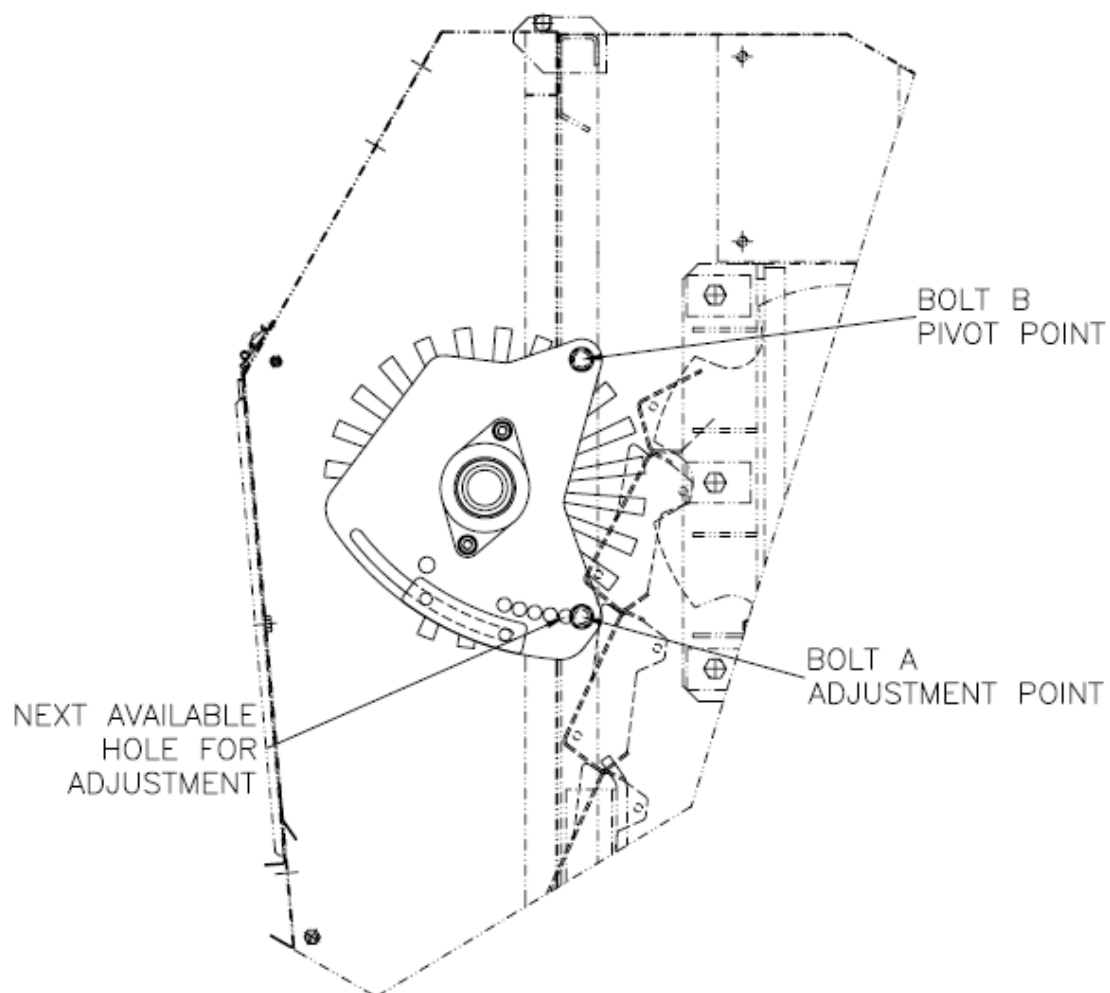

Figure 4-2. Rotary Washing Brush Adjustment
2. Remove the lower bolt "A" so that the support plate pivots on the upper bolt "B" shown in figure 4-2.